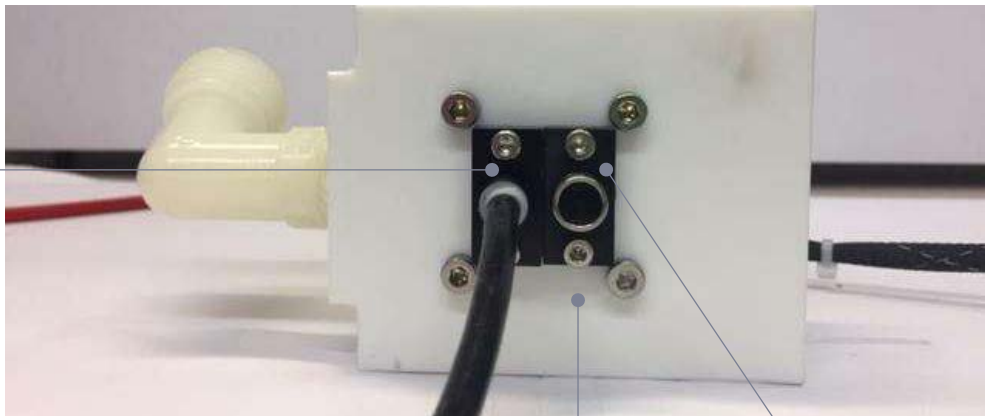

Figure 7
13. Rotate pump chamber so that the black wire is facing outward and remove end cap screws and end cap using a M 2.5 Hex Key Wrench **(figure 7)**.